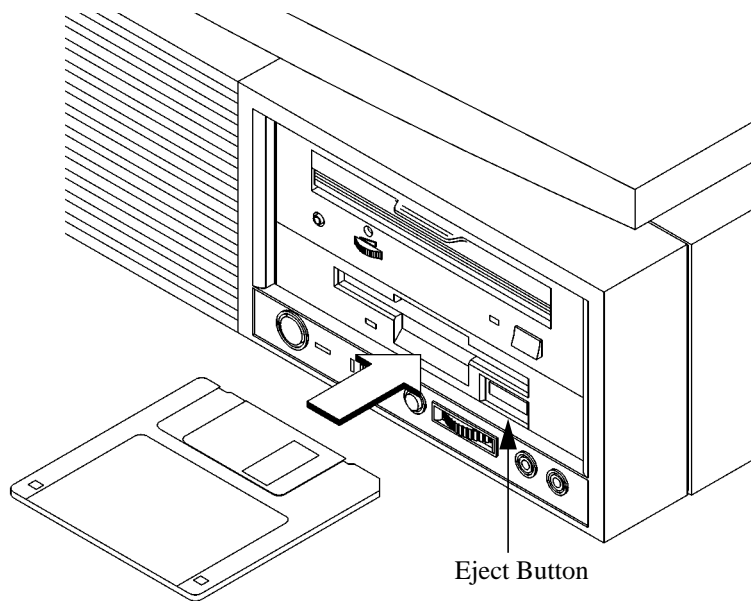

Figure 23
- 1 Insert the diskette into the drive, as shown in Figure 23.
- 3 To remove the diskette, push the eject button, as shown in Figure 23. Then remove the diskette.